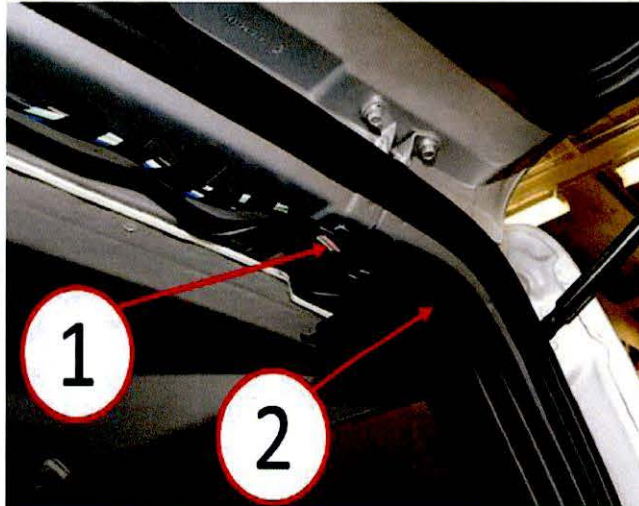

Fig. 1 Trim Panels - Right Side Shown
1. Open the tailgate and remove the headliner trim piece at the tailgate opening (1) and partially remove the interior quarter trim panel (2) where the waterleak is suspect(Fig. 1).